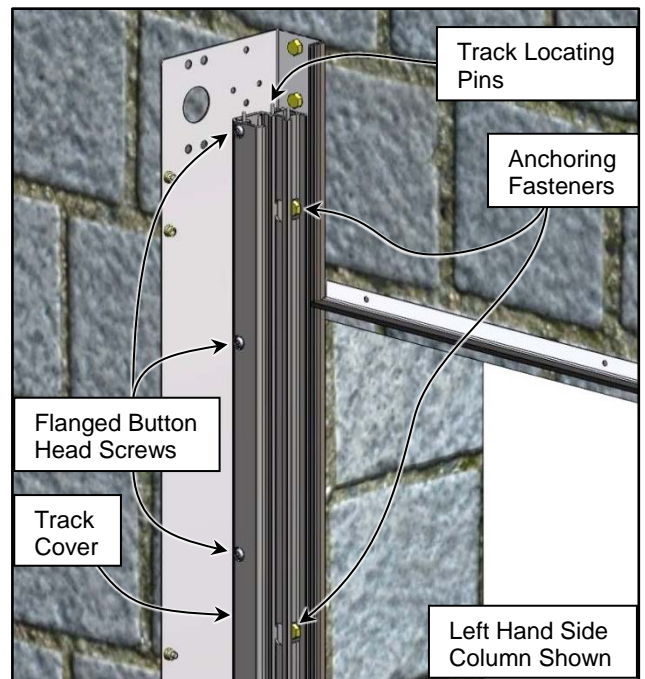
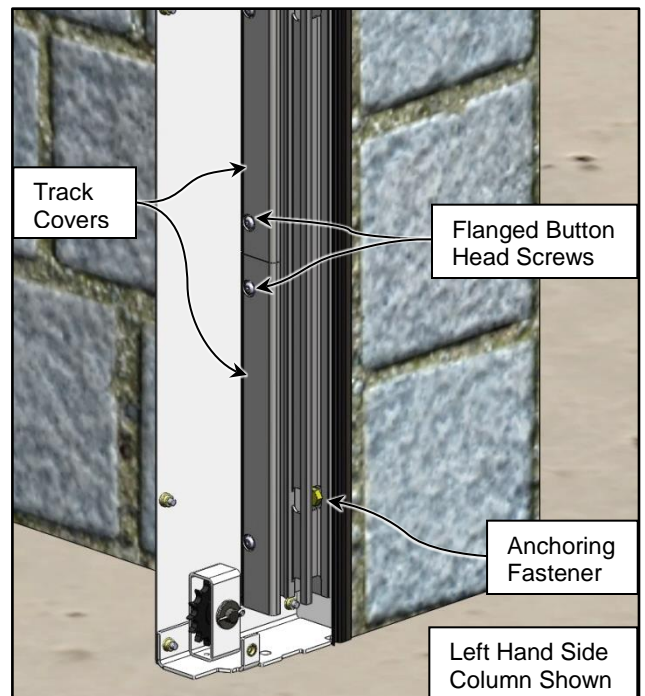
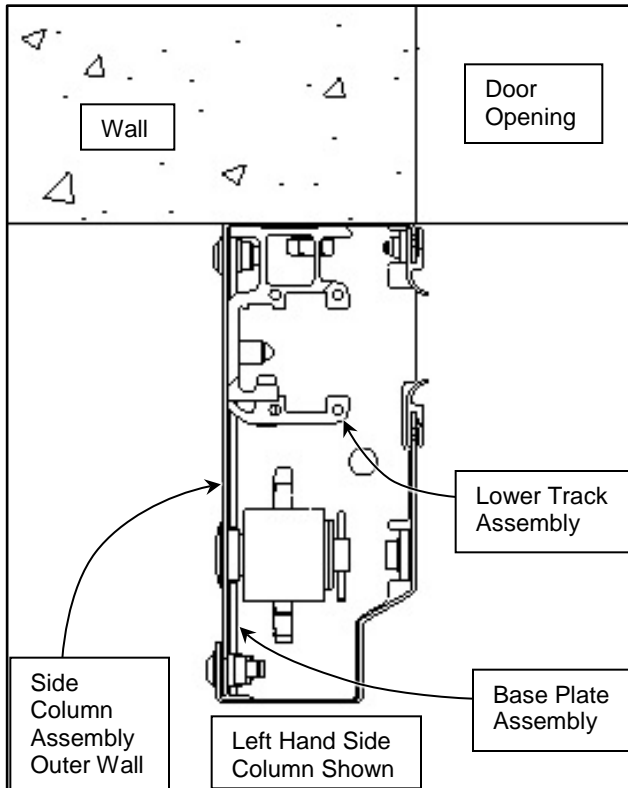
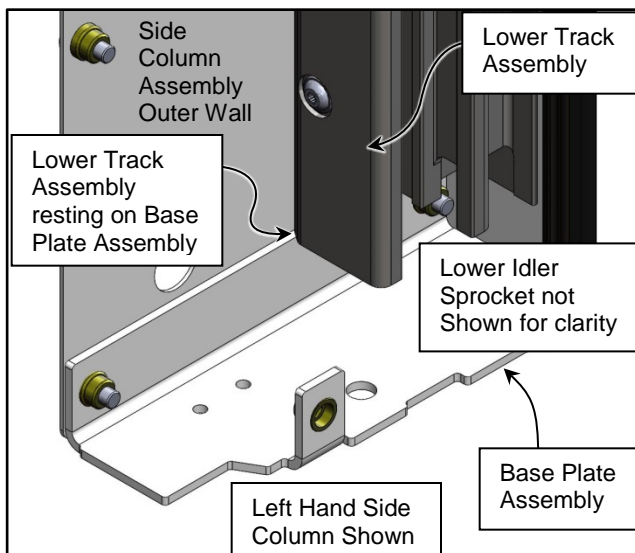

Figure 23
Figure 24
Figure 25
Figure 26
- Confirm the fit within each side column as shown. Confirm that the anchor fastener holes align w/ the holes in the track assemblies. (See Figure 23 and Figure 24)
13. Mount the Lower Track to the Side Column and wall with the anchoring fasteners & snugly tighten them up. Use the anchors suggested. (see "ANCHORING METHOD" on page 4) Do not fully tighten the anchors at this time. They should just be snug. (See Figure 23, Figure 24, Figure 25, and Figure 26)
**IMPORTANT: The Lower Track Assembly must be on top of the Base Plate Assembly and in contact with the wall of the Side Column Assembly Outer walls as shown in Figure 25.**